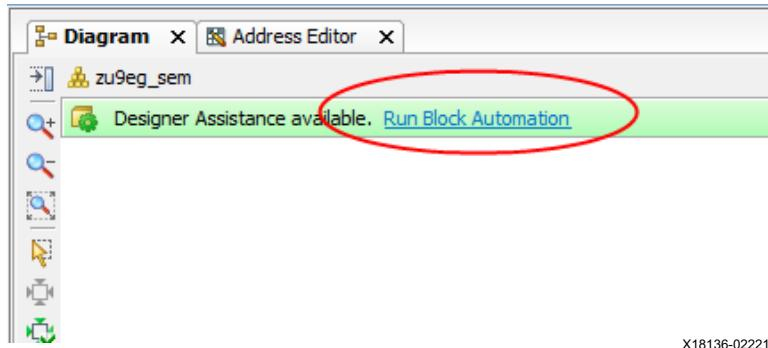

Figure 19: Design 2 - Run Block Automation
- Select **Run Block Automation**. See Figure 19.